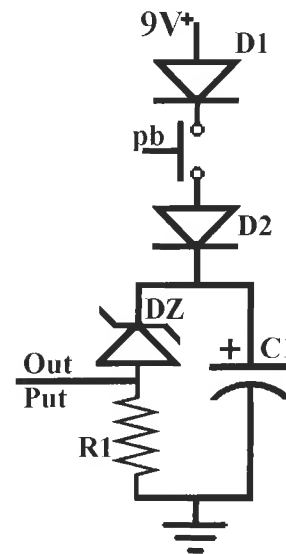

**Figure L34-5**
- Now check out the actual effects of the zener diode (see Table L34-3). Figure L34-5 shows two circuits. Breadboard each separately and do the measurements. Note the LED in each.